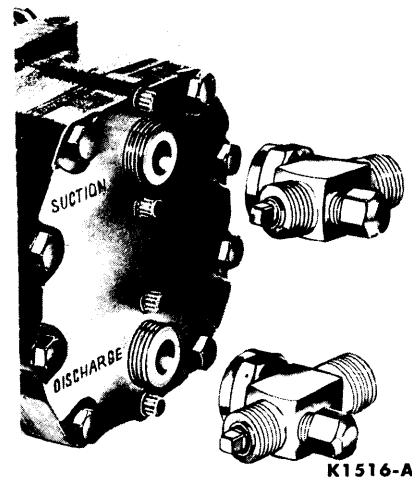

FIG. 13—Compressor—Service Valves Removed
compressor (Fig. 13). Energize the clutch and loosen and remove the clutch mounting bolt.
3. Install the service valves on the compressor using new Teflon seals (Fig. 13). Tighten the service valve flared nuts to specification. **Do not over tighten the flared nuts. The new ROTO-LOK service valves can be rotated slightly on their**